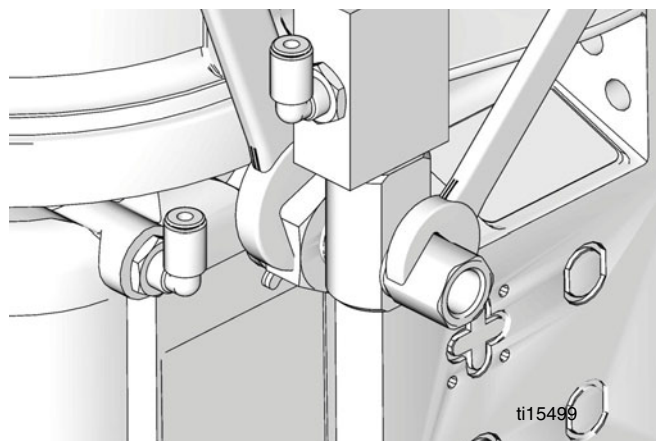

FIG. 6
12. Use two wrenches working in opposite directions to tighten fitting. Torque fitting to 35 ft. lbs (45.7 N•m) (FIG. 6).